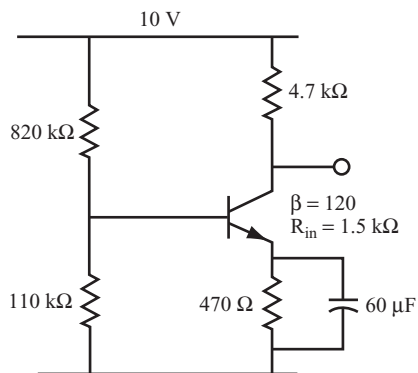

FIGURE 8.29
**30** For the circuit shown in Figure 8.29, follow the steps given in problems 28 and 29 to answer the following questions.